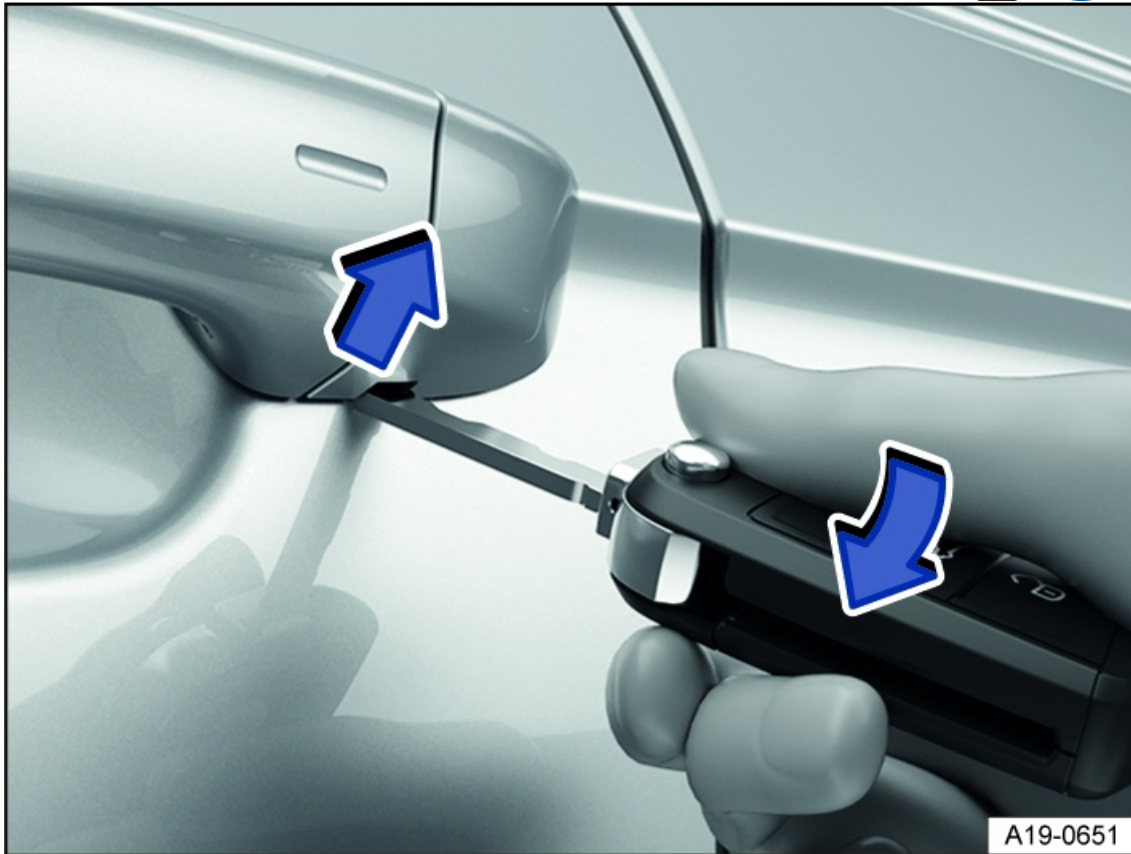

Fig. 55 Driver's door handle: prying off the cap.
3. Use the vehicle key to pry the cap off in the direction of the arrow fig. 55.